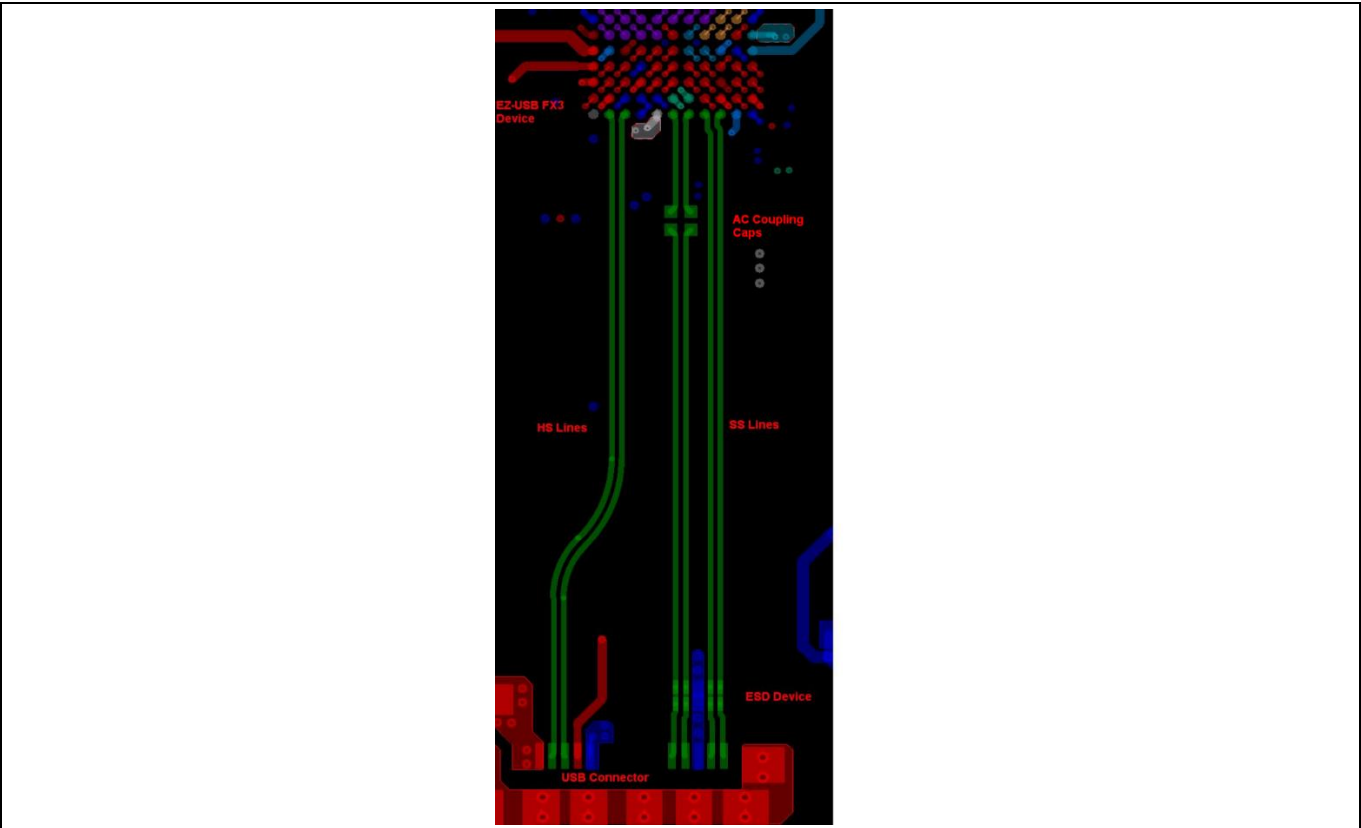

Figure 36 USB signals layout example
- Figure 36 shows an example of routing the USB signals from the EZ-USB™ FX3 device to the USB 3.0 Micro B receptacle. Each differential pair should be kept uniform throughout the trace. Place AC coupling caps as close to the device as possible. ESD devices should be placed as close to the receptacle as possible.